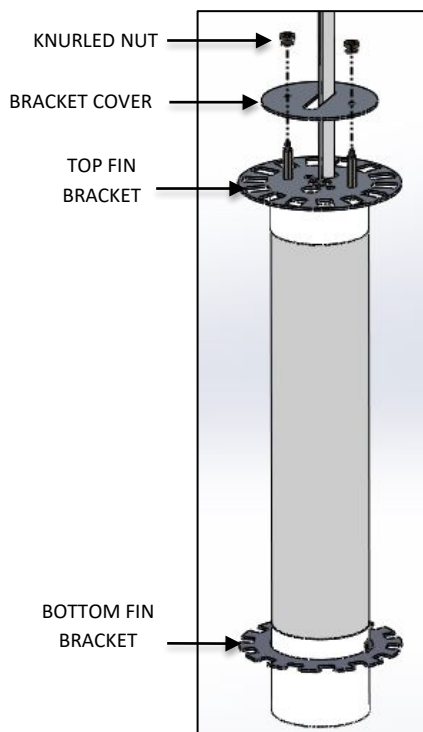

FIG. 34 – BRACKET COVER
11. Remove 2 KNURLED NUTS and raise the BRACKET COVER as shown below in FIG. 34.